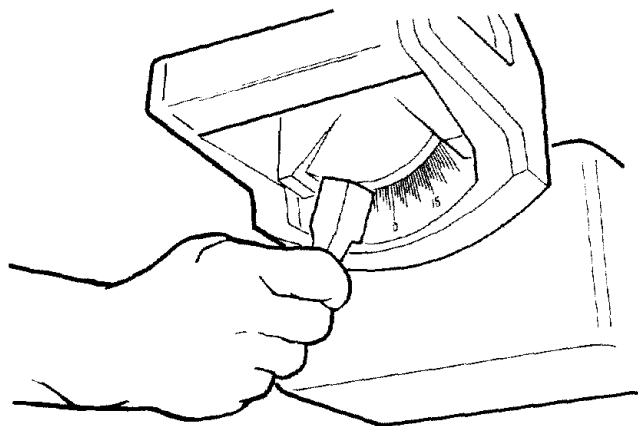

Fig. 122 - Bevel Lock - Locked
2. Position the motor at approximately  $30^{\circ}$  bevel angle and lock *bevel lock*. (Figure 122)